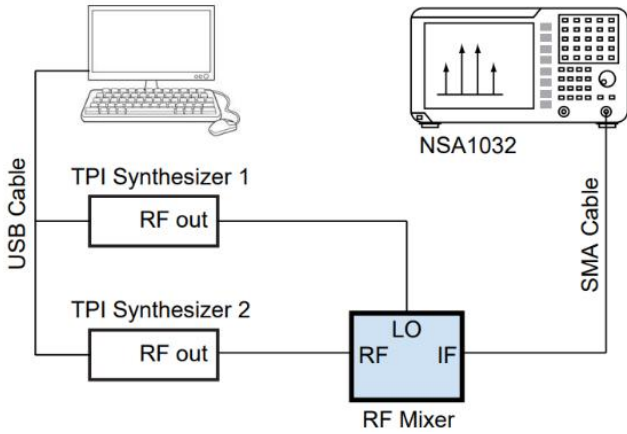

Fig. 1. Mixer characterization setup.
1. Connect the system based on the schematic shown in Fig. 1.